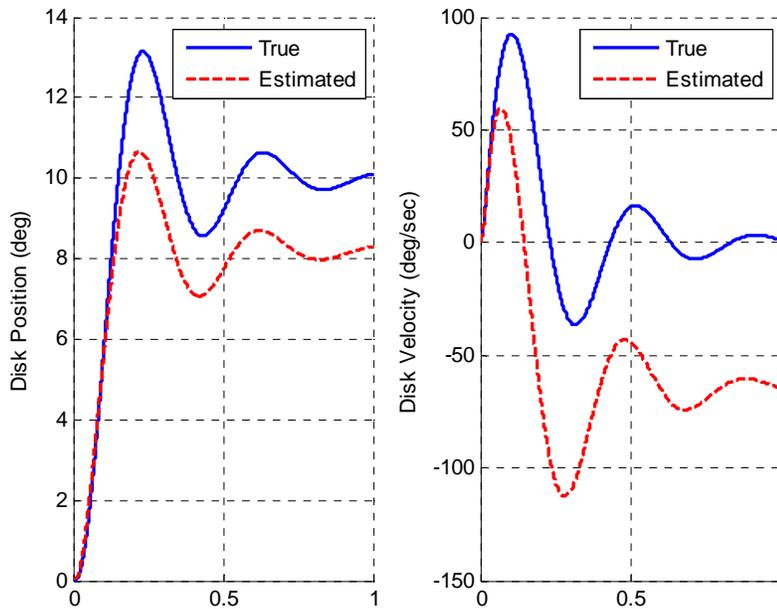

Figure 19. Full order observer with integrator and bad data (problem 5c).
c) Now we will try and observe what happens when there is a difference between our model and the real system. Modify the observer block in the model file, so the A matrix is called AA. Just before you run the model file, enter the command $AA = A*1.5$. You should get results like those in Figure 19.
Note that in both Figures 19 and 20, the steady state error is zero, even if the observer is not converged.